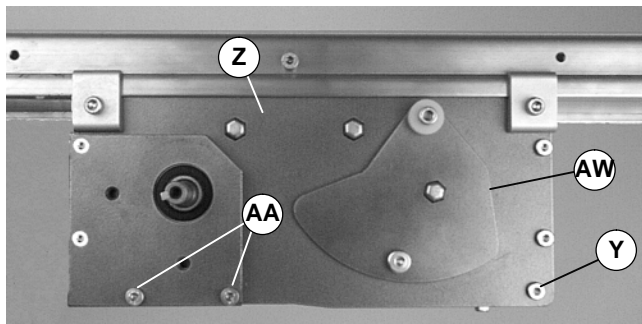
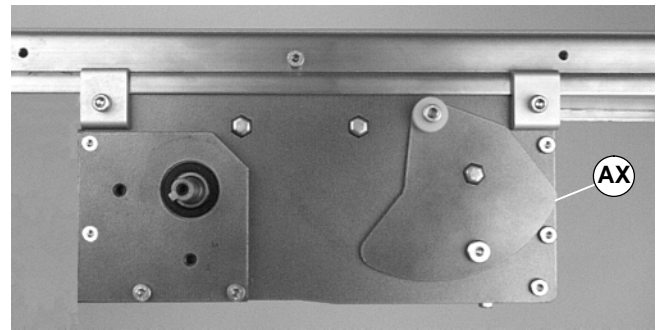

Figure 36
Figure 37
12. Tighten screw (Y of Figures 36) on each side to 9 Nm.
13. Replace screws (AA of Figure 36) on each side of center drive module (Z). Tighten screws to 9 Nm.
NOTE: For a new belt, the tension plate will be in position (AW of Figure 36). When tension plate extends to position (AX of Figure 37), the conveyor belt must be replaced.